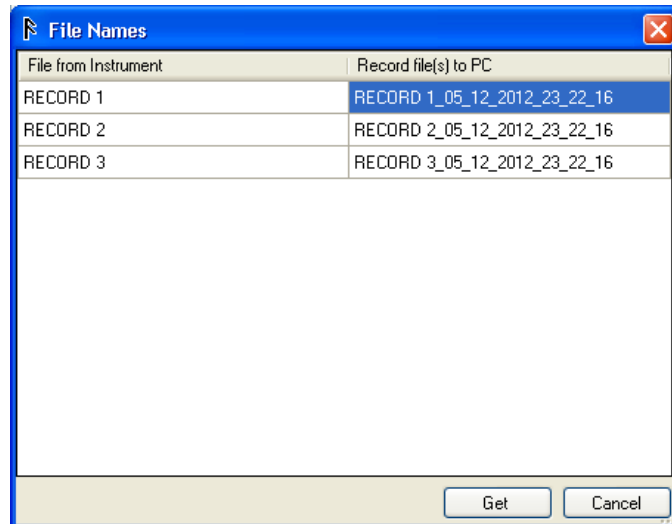

Figure 6-3. File Names Dialog with Record Names
2. Click the **Get From...** button. The File Names dialog box shown in Figure 6-3 shows in the display.